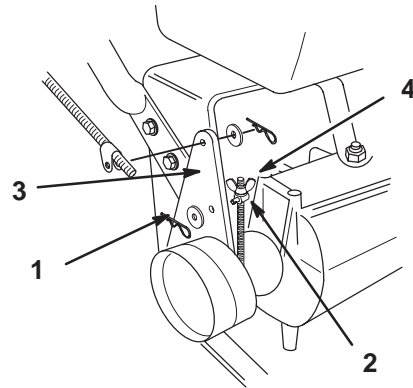

Figure 32
3. To adjust the brake remove the cotter pin and washer from the brake lever (Fig. 32).
4. Rotate the trunnion so it smoothly slides into brake lever (Fig. 32). Tighten wing nut.
5. Secure trunnion to brake lever with washer and cotter pin (Fig. 32).